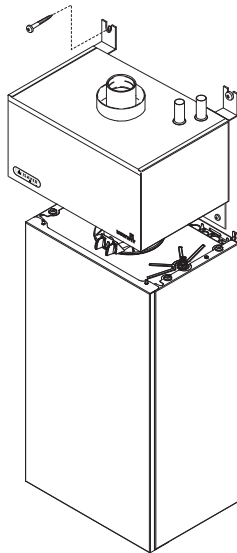

Fig. 5
5. Whilst supporting the GasSaver secure it to the wall with the screws and washers provided using the upper fixing brackets (Fig. 5). **The weight of the GasSaver must be taken by the mounting bracket.**